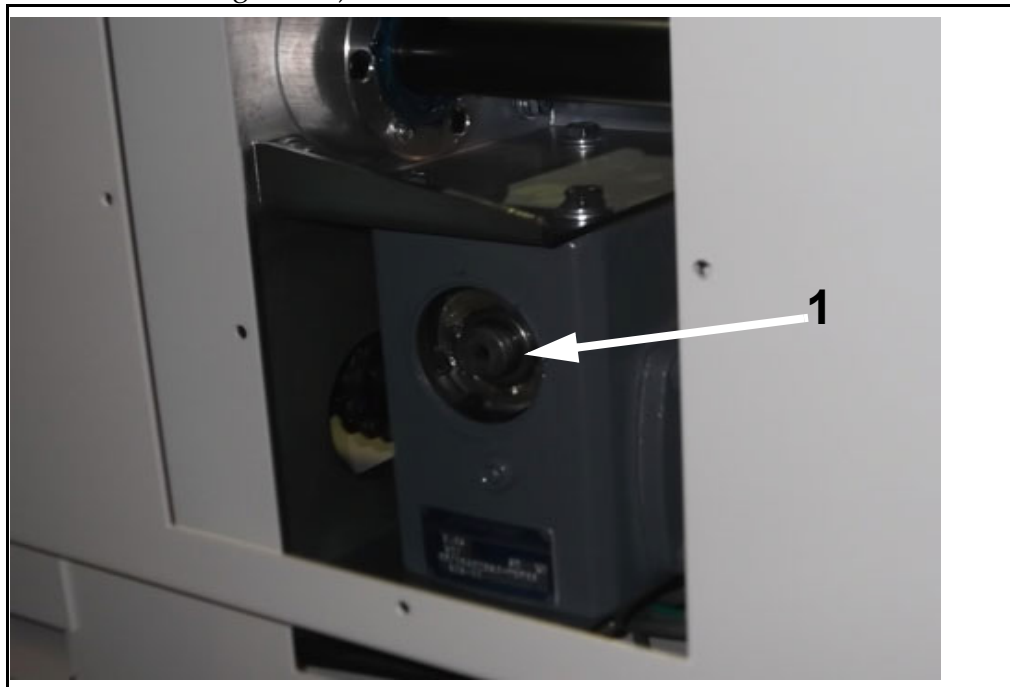

Figure 5-7. Input shaft
- 7 Carefully wipe off excess grease from the end of the input shaft (1 in Figure 5-7).